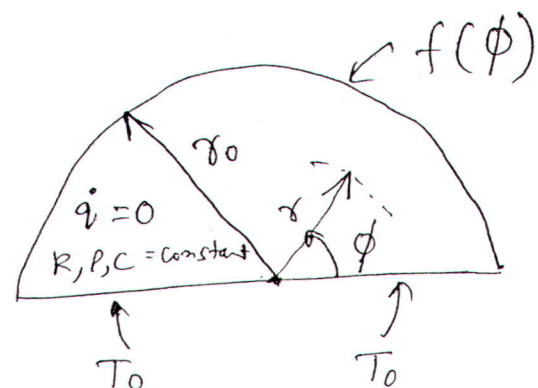

Fig. 2
7. Consider a long solid cylinder of semi-circular cross-section as shown in Fig. 2. The cylindrical surface at  $r = r_0$  is maintained at some arbitrary temperature distribution  $f(\phi)$ . The planar surfaces at  $\phi = 0$  and  $\phi = \pi$  are both maintained at constant temperature  $T_0$ . There are no internal energy sources or sinks in the cylinder and the thermo-physical properties of the material of the cylinder may be considered as constant. Find the steady-state two dimensional temperature distribution  $T(r,\phi)$  in the cylinder using **Hankel transforms**. [6]